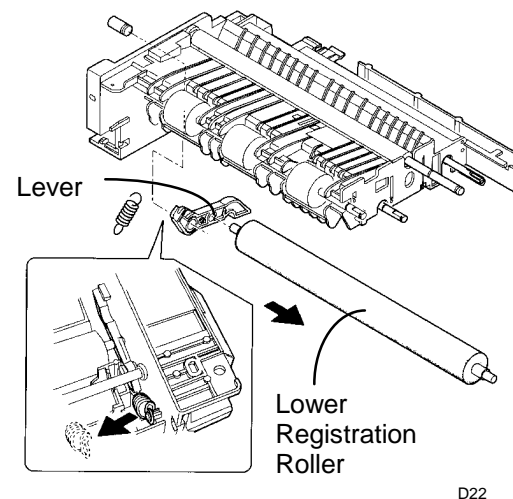

Figure 4. Removing the Lower Registration Roller
6. (Figure 4): Remove the Tension Lever and Remove the Lower Registration Roller.